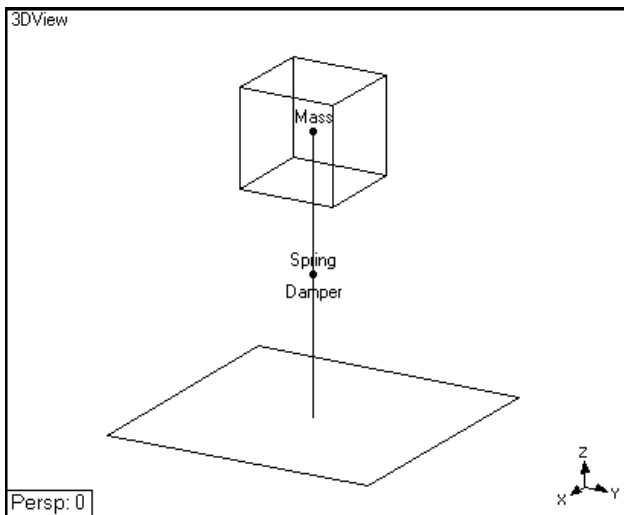

Figure 3. SDOF Model.
- To make the SDOF look more realistic, add a **Cube** SubStructure to the mass Point, and a **Square** SubStructure to the ground Point, as shown in Figure 3.